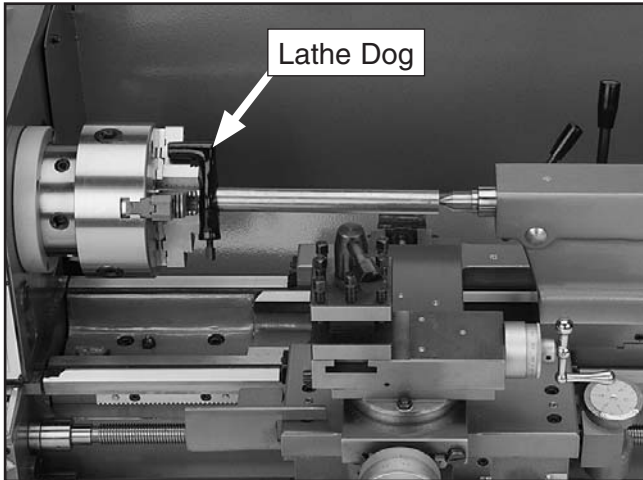

Figure 35. Checking tailstock alignment.
6. Attach a lathe dog to the bar stock and mount it between centers (see **Figure 35**).